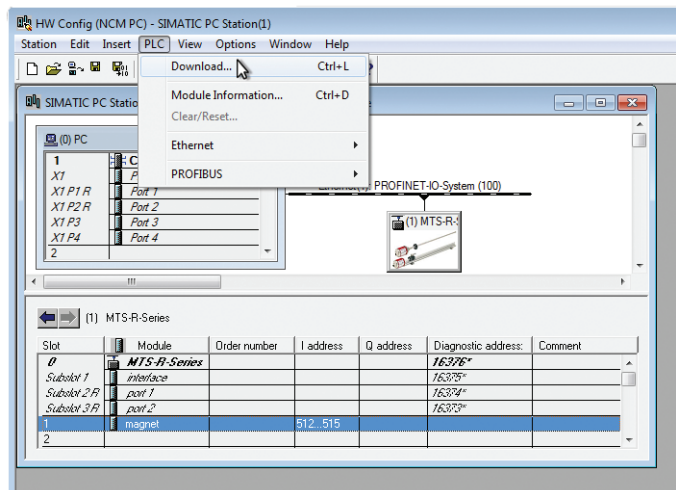

Fig. 44: Transfer settings to the control system (source: Siemens)
8. Transfer your settings to the control system as described below (Fig. 44):